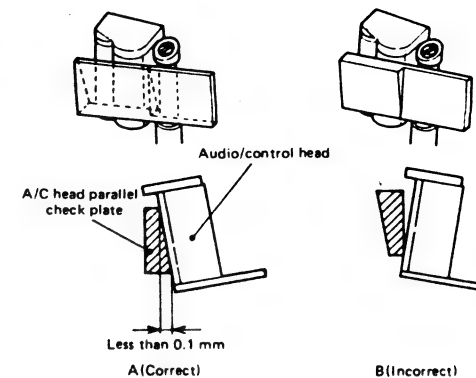

Fig. 2-29
2. Put the A/C head parallel check plate against the audio/control head as shown in Fig. 2-29 and confirm that the inclination is less than 0.1 mm as shown by A.